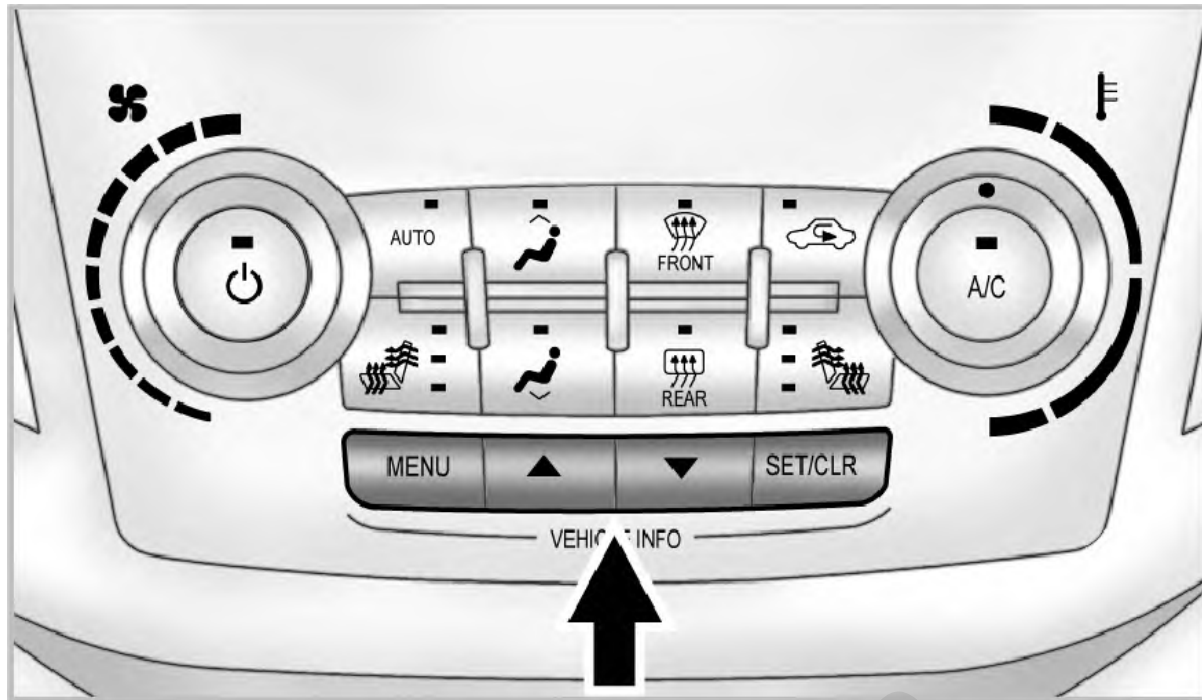

Fig. 1: Identifying Driver Information Center (DIC) Controls (Center Console))
2. Activate the Relearn mode using a OEM scan tool or driver information center controls (see Fig. 1). A double horn chirp sounds indicating the Relearn mode has been enabled and the left front turn signal will also be illuminated.